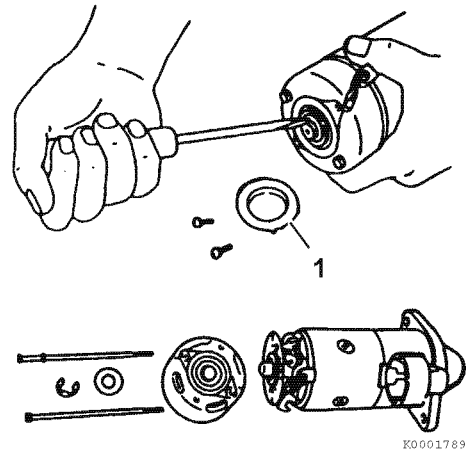

Figure 8-34
12. Install the rear dust cover (1, Figure 8-34).